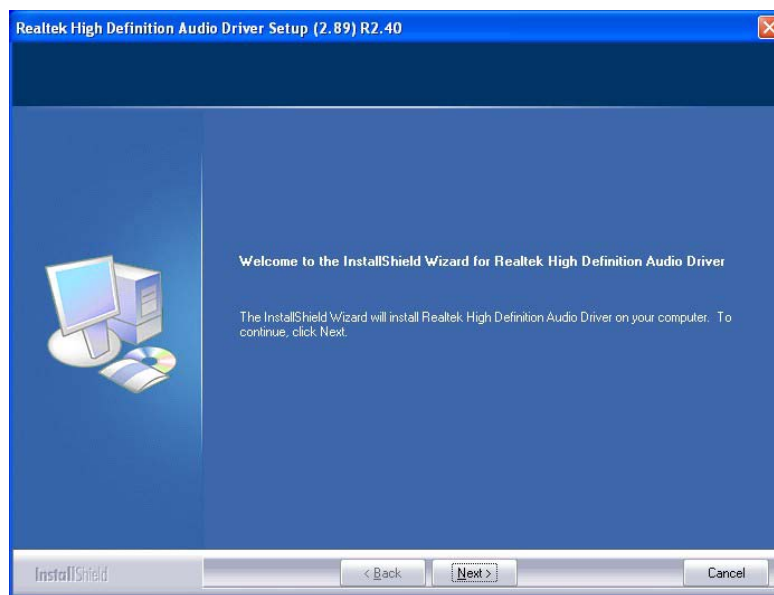

Figure 6-21: Audio Driver Welcome Screen
Step 4: The **Audio Driver Welcome Screen** in **Figure 6-21** appears.